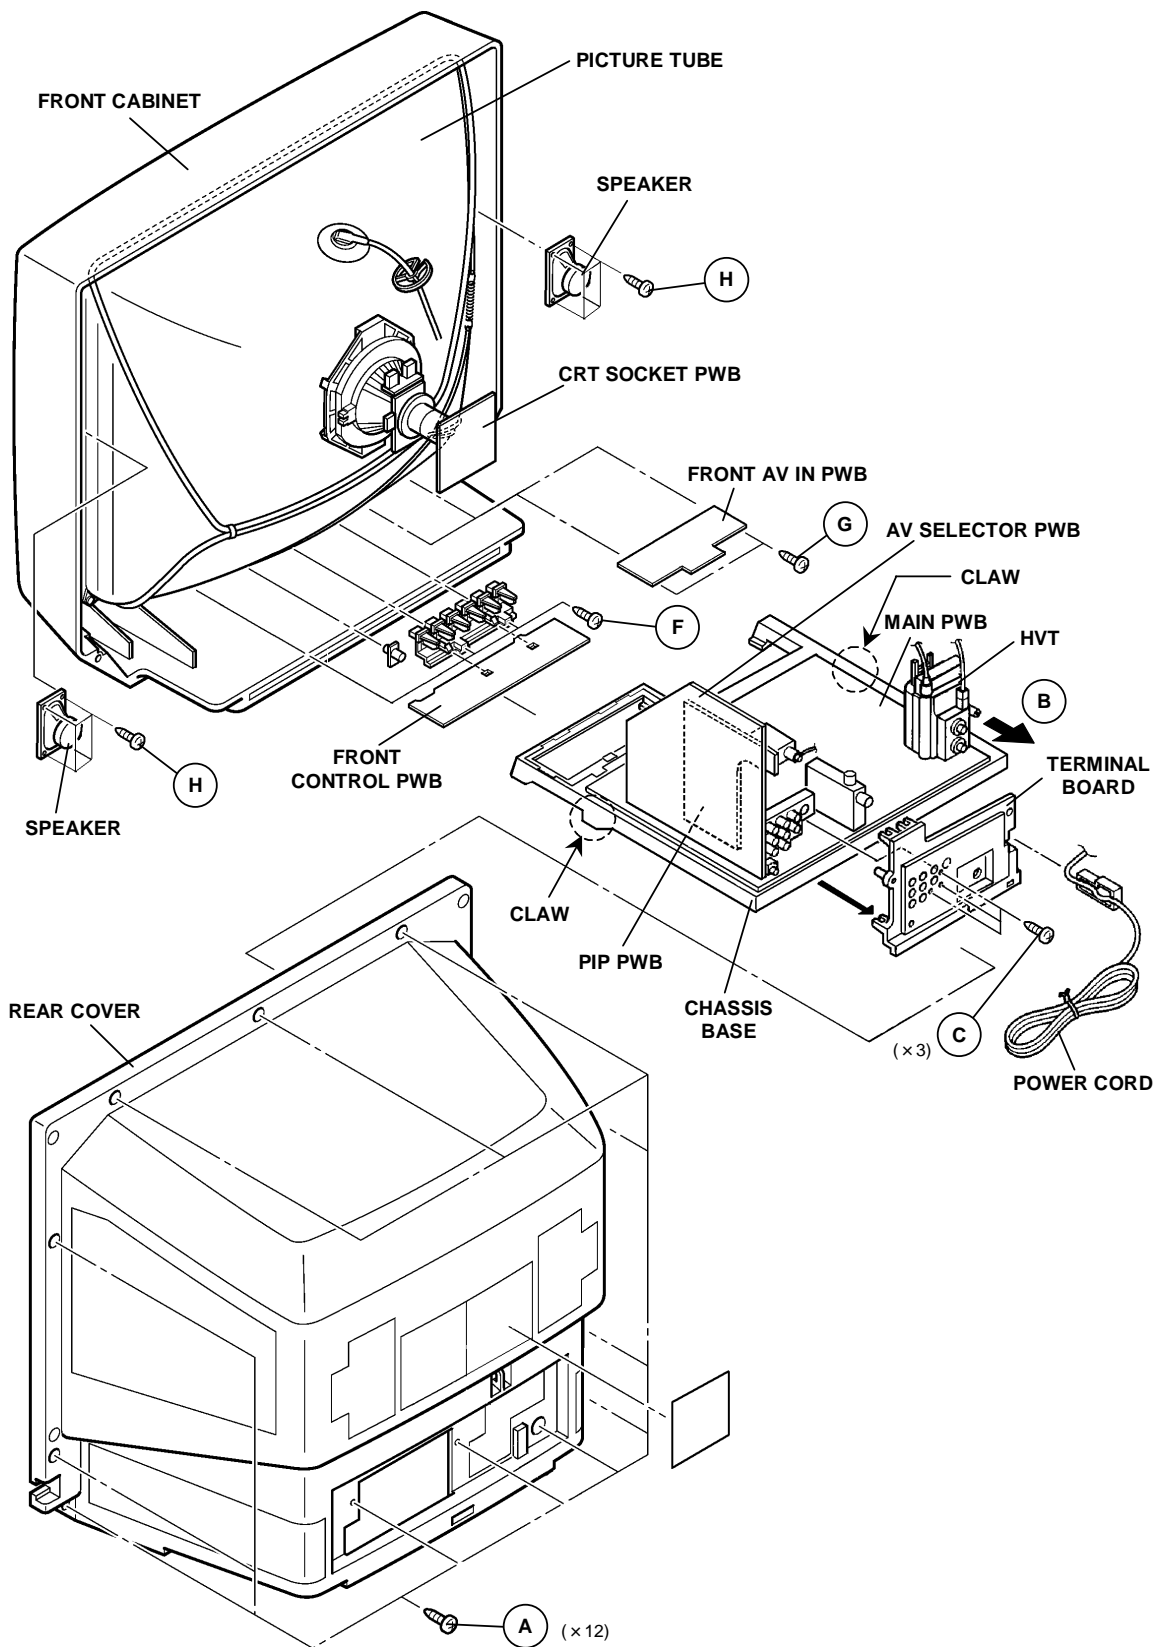

Fig. 2
1. Remove the **12** screws marked **(A)** as shown in Fig.2.
2. As shown in the Fig.2, withdraw the chassis backward along the rail in the arrow direction marked **(B)** .
1. As shown in Fig.2, remove the **3** screws marked **(C)** .
1. As shown in Fig.2, remove the **3** screws marked **(F)** .
1. As shown in Fig.2, remove the **2** screws marked **(G)** .
1. As shown in Fig.2, remove the **4** screws marked **(H)** .